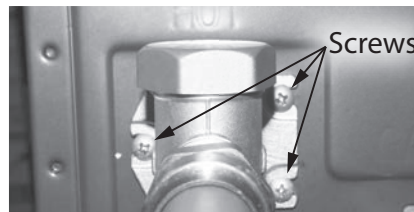

Figure 227 - Outlet assembly screw location
21 Locate the three (3) screws securing the outlet assembly to the base of the water heater. Use a Phillips screwdriver to remove the screws. Place screws aside in a safe place for reinstallation. See Figure 227.